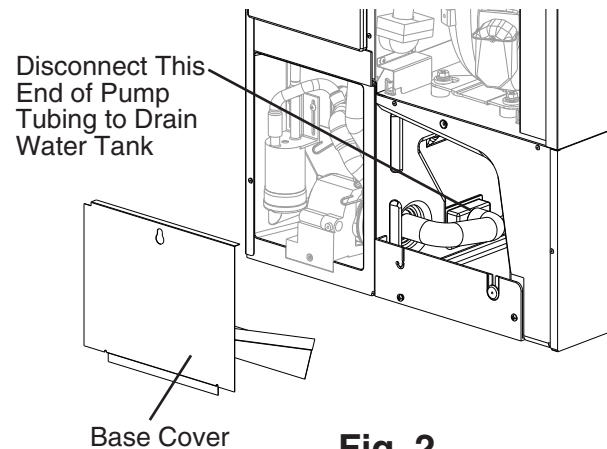

Fig. 2
- 3) Remove the base cover, then disconnect one end of the pump tubing to drain the water tank. See Fig. 2. After the water tank has drained, reconnect the pump tubing.